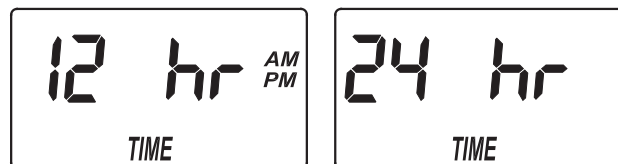

FIG. 25
1. Press and hold the PROGRAM button until the screen in Figure 21 is displayed. Once in this display, press the PROGRAM button three times and one of the two displays in Figure 25 is shown.